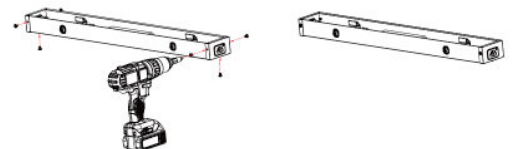

Fig. 33
3. Install the new end caps (with male and female connectors) on the strip light, and secure the end caps with screws (Fig. 33).